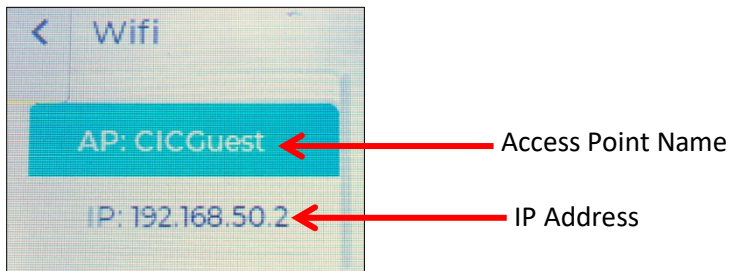

Figure 17: DVR Network Information
9. At the same time, the DVR Screen will automatically refresh and display the network information (Access point name, IP address, etc.). The items on this screen can be highlighted by turning the knob. See **Figure 17**.